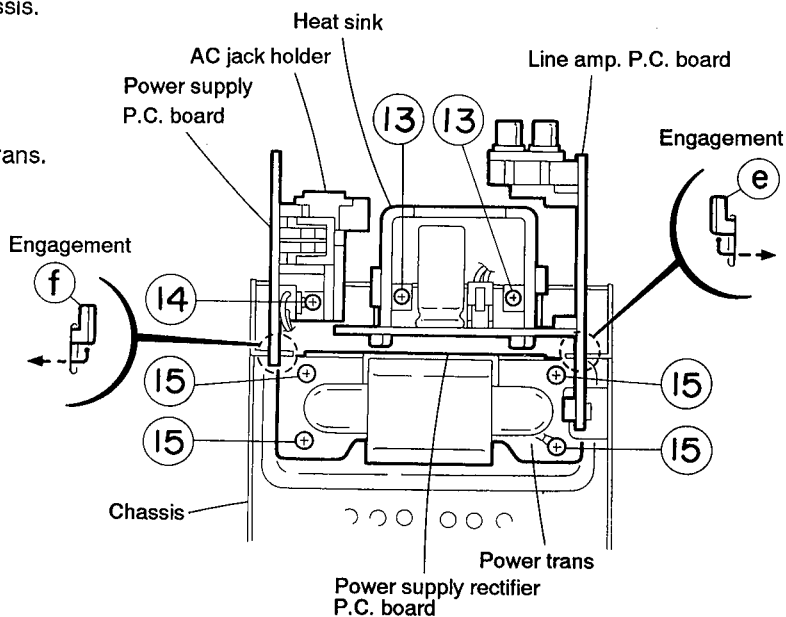

Fig. 5-18
**Removing the line amp. P.C. board and power supply P.C. board** (See Fig. 5-18)
1. Remove the two screws ⑬ retaining the heat sink.
2. After raising the line amp. P.C. board, disengage the two engagement ④ between the P.C. board and chassis.
3. Remove the one screw ⑭ retaining the AC jack holder.
4. After raising the power supply P.C. board, remove the engagement ⑤ between the P.C. board and chassis.
**Removing the power trans.** (See Fig. 5-18)